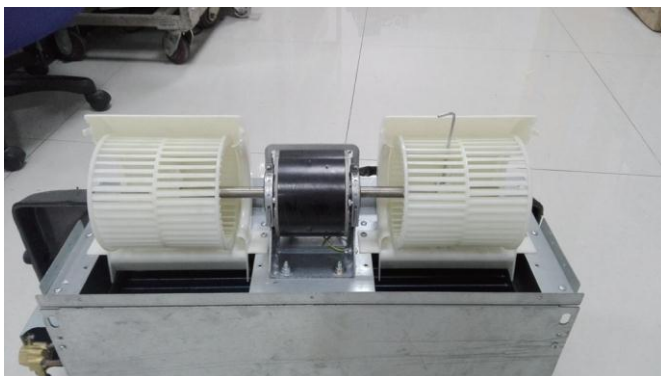

Fig.2
- ② Remove the fan blades
- Loosen the fixing screws with a special Allen screwdriver or spanner from the notch (see Fig.2)
- ③ Remove the front volute casing